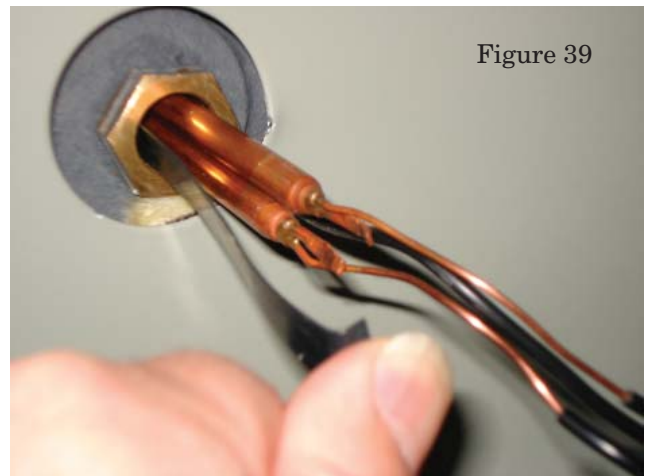

Figure 39
7. Remove the spring clip and the sensing bulb of the existing auto-reset water temperature limit switch from the boiler temperature well. Do not remove the bulbs of the adjustable supply water thermostat and temperature gauge. See Figure 39.